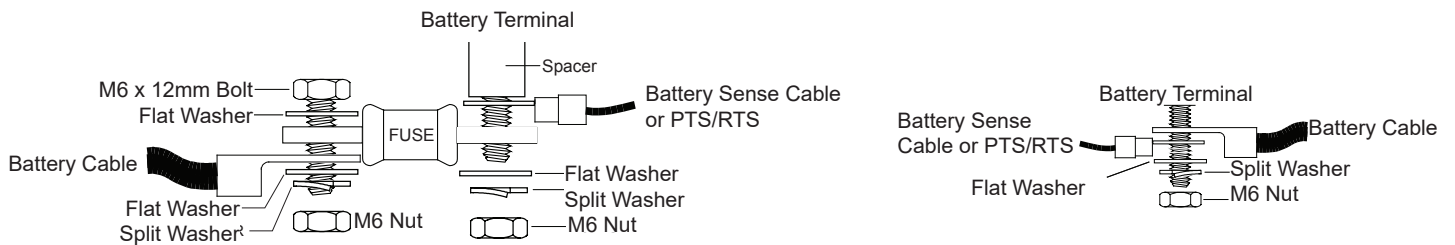

Fig. 2-2, Terminal Stack Up (Fused and Unfused)
1. Figures 2-2 and 2-3 show the battery terminal and fuse arrangement for horizontal battery posts.